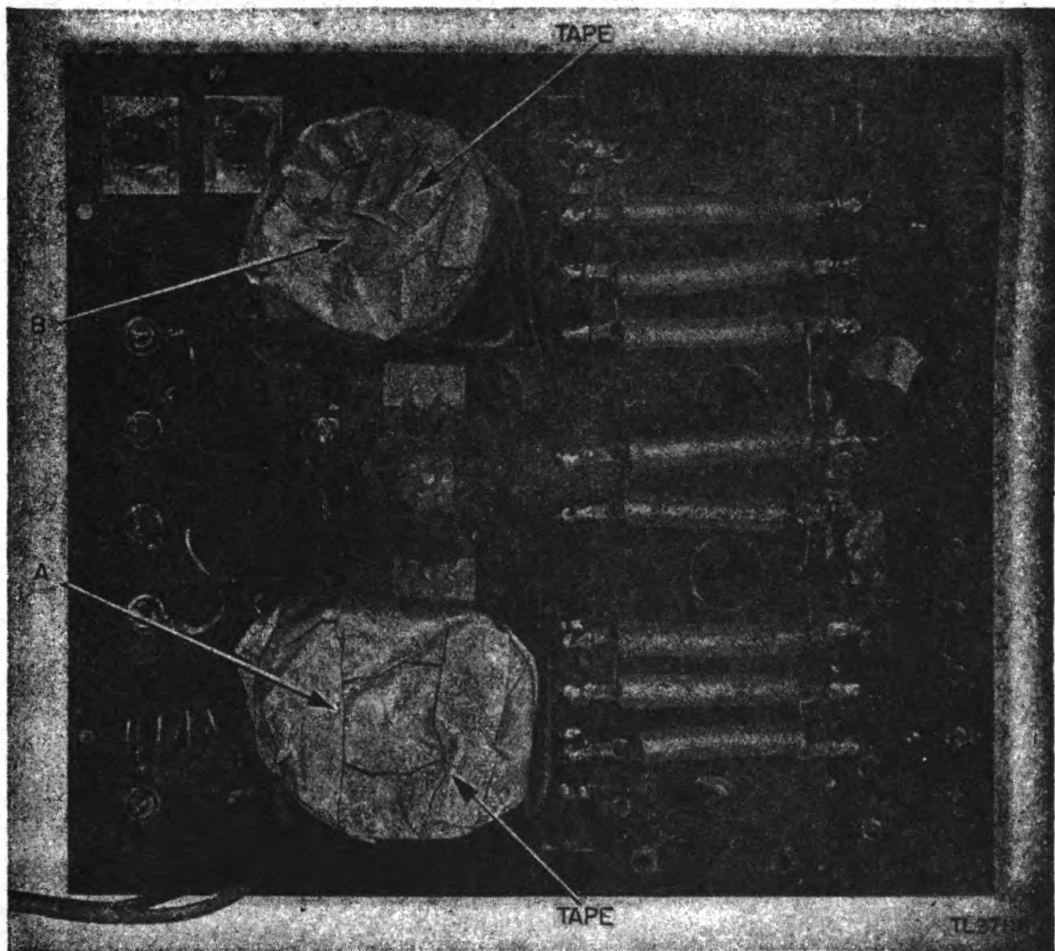

Figure 16. Test Set I-179, method of masking switches.
- (a) Contacts of the Range Selector Switch, item A, figure 16.
- (b) Contacts of the Circuit Selector Switch, item B, figure 16.